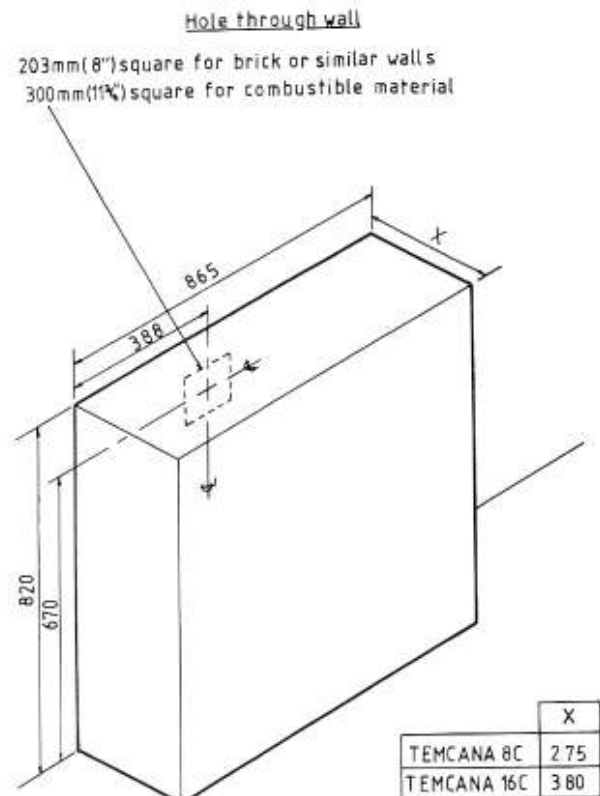

Fig. 2
7.2 Using the dimensions shown in Figure 2, mark the position for the hole through the wall.